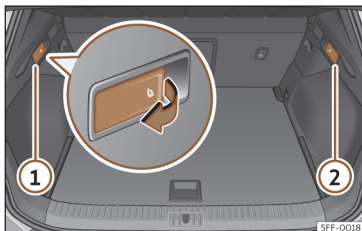

Fig. 111 In the luggage compartment: levers to unlock the rear backrest.
- Pull the remote release lever of the left part»» **Fig. 111** ① or right part ② of the backrest in the direction of the arrow. The released part of the rear seat backrest is folded automatically down and forwards.